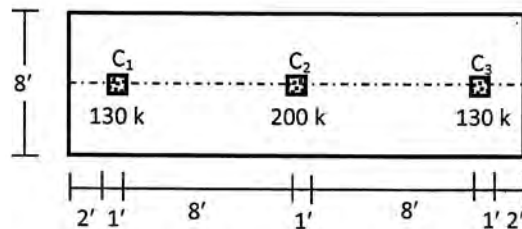

Fig: 5
6. The loads (including self-weight) and arrangement of columns of size 12"x12" of the combined footing are shown in **Fig: 5**. Use WSD to